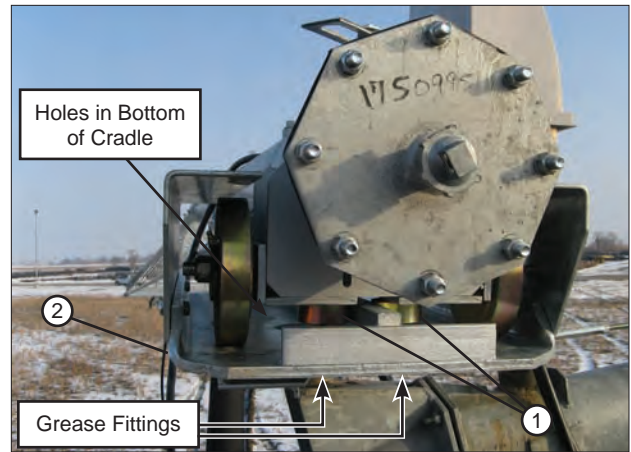

Figure 31-1
2. From beneath the extended cradle, use a grease gun with fitting Valmont pn 0991807 to lubricate the grease fitting on each guide roller. See figure 31-1.